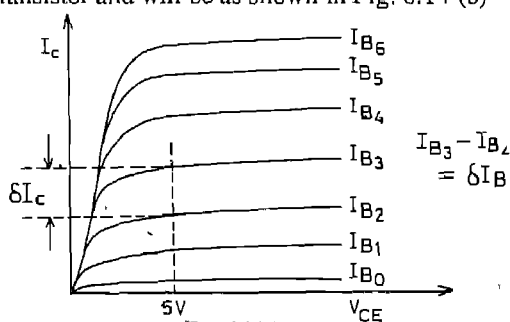

Fig 6.14 (b)
11. Now to find the value of the current gain  $\beta$  (which you know is the ratio  $\Delta I_C / \Delta I_B$  at constant  $V_{CE}$ ) choose a value of  $V_{CC}$ , say 5V, and choose two curves corresponding to two values of  $I_B$  as shown in the Fig. 6.14 (b). At 5V points on these curves find the values of the  $I_C$  from the graph. The ratio of the difference between the two values of the  $I_C$  to the difference between the two values of the  $I_B$  gives you the value of  $\beta$  at  $V_{CE} = 5V$ . Find  $\beta$  at three values of  $V_{CC}$  by choosing curves for different values of  $I_B$ . And conclude your results.